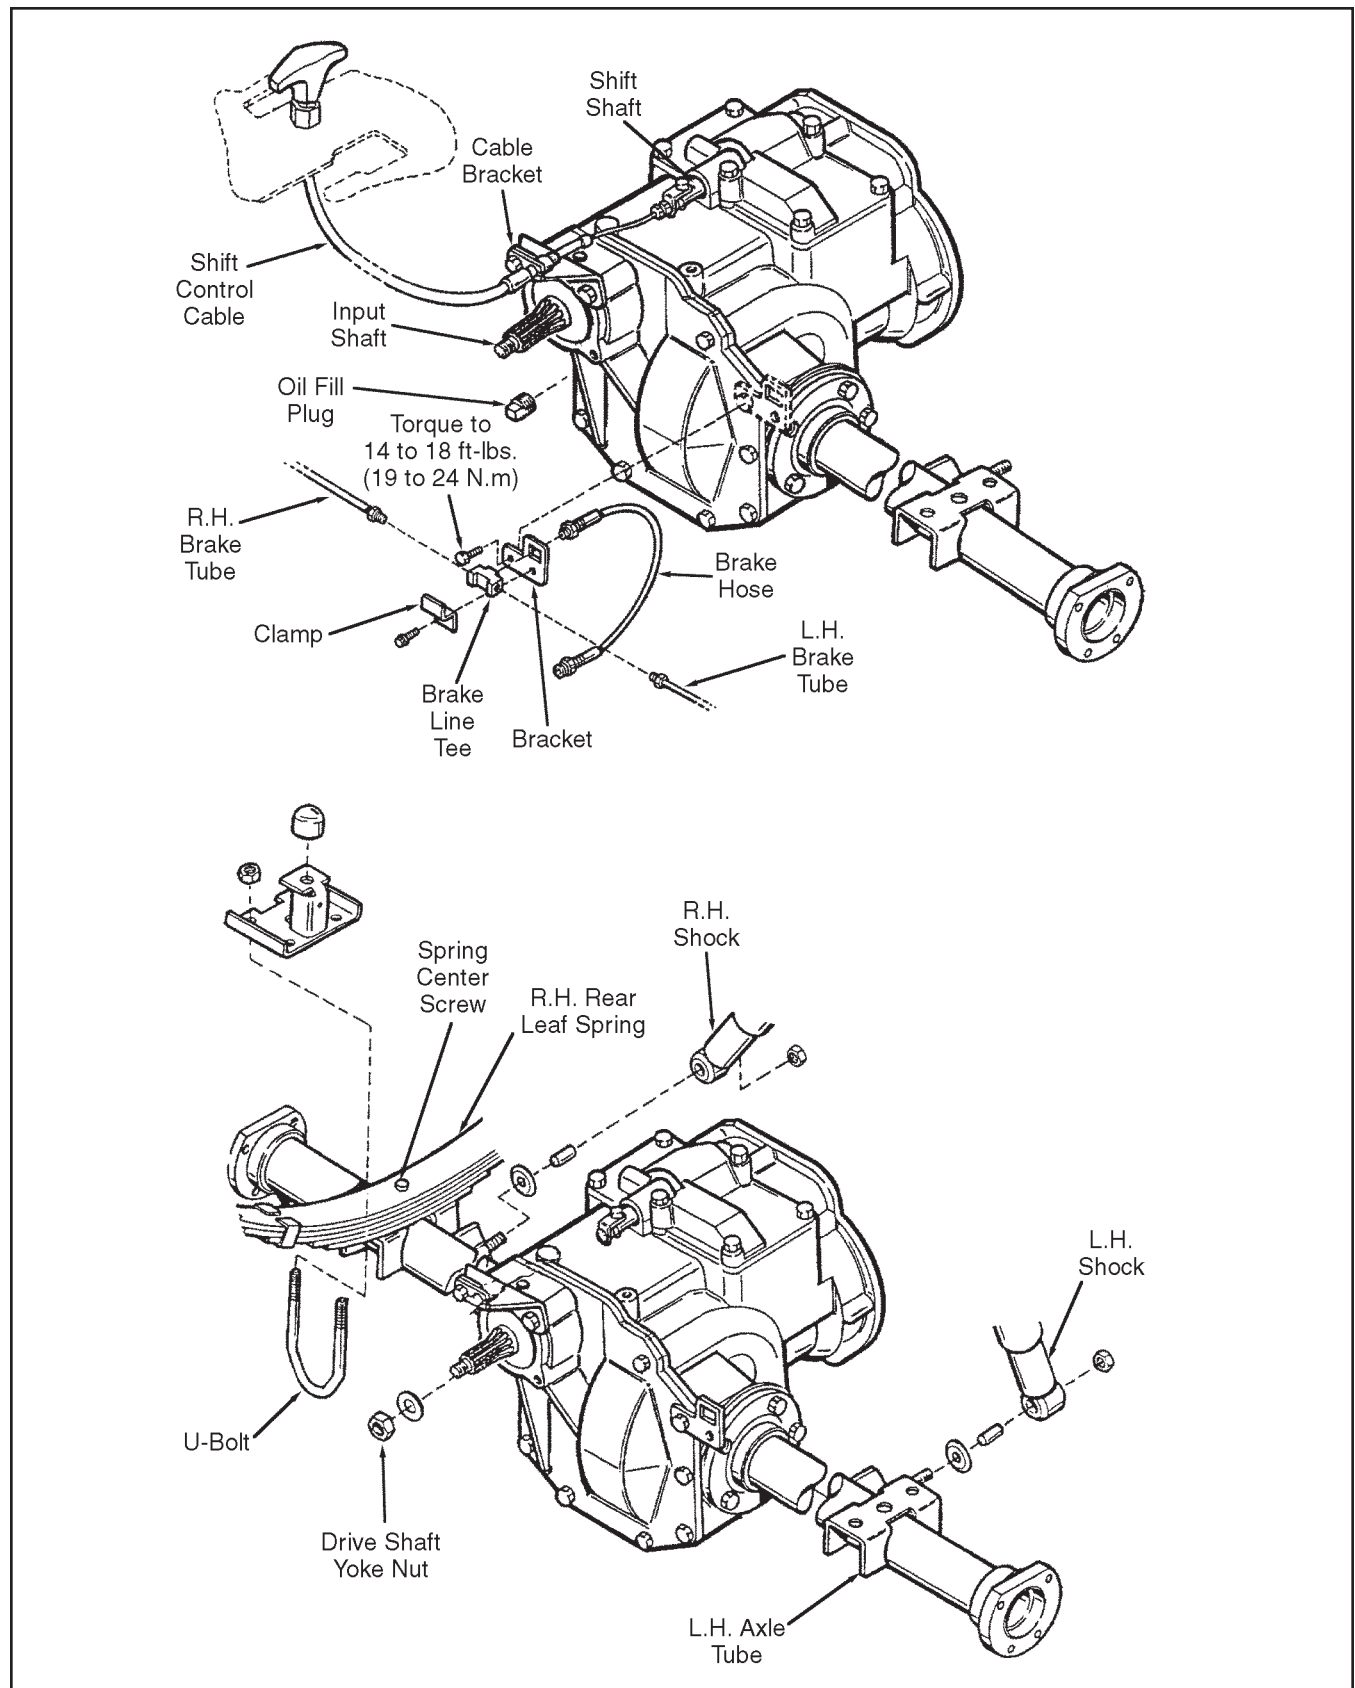

Figure 4I-14. Differential and Axle Assembly Installation
11. If previously removed, install the dump box and connect the box lift cylinder as shown in Figure 4I-1.